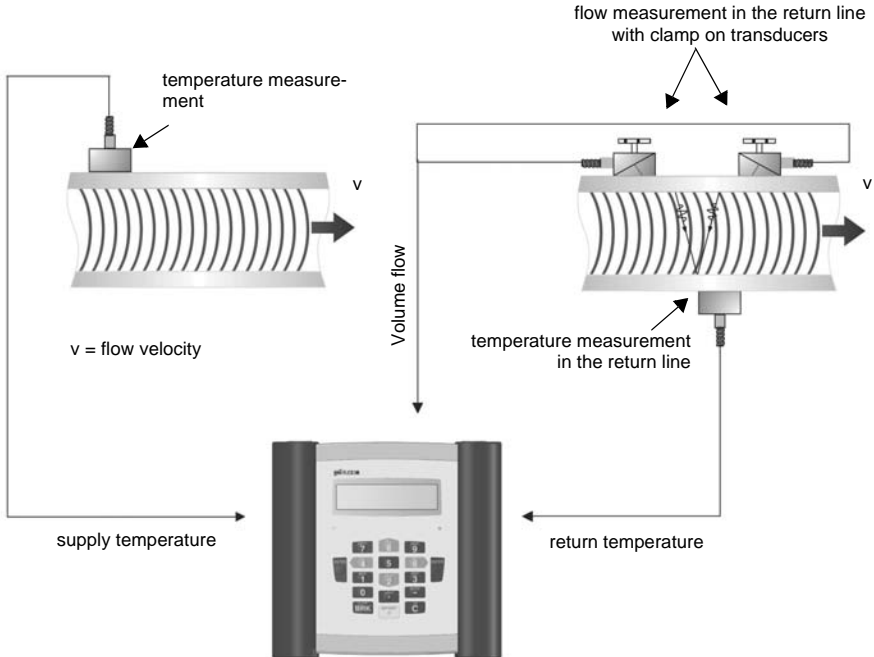
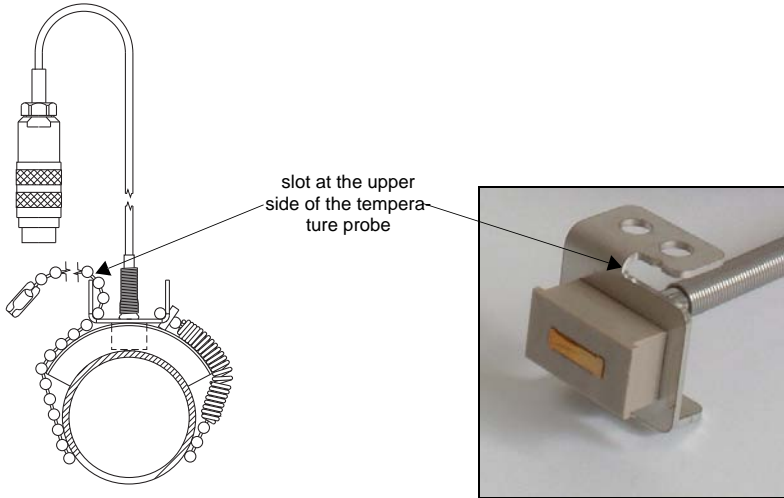

Fig. 16.1: Measurement of heat flow and heat quantity
Fig. 16.3: Mounted temperature probe
- Fix the temperature probe (see Fig. 16.1 to Fig. 16.3).
- Place the chain around the pipe. Pull the chain firmly and insert it in the second slot of the temperature probe (see Fig. 16.3).
For the installation of the transducers see Fig. 16.1 and section 6.6.